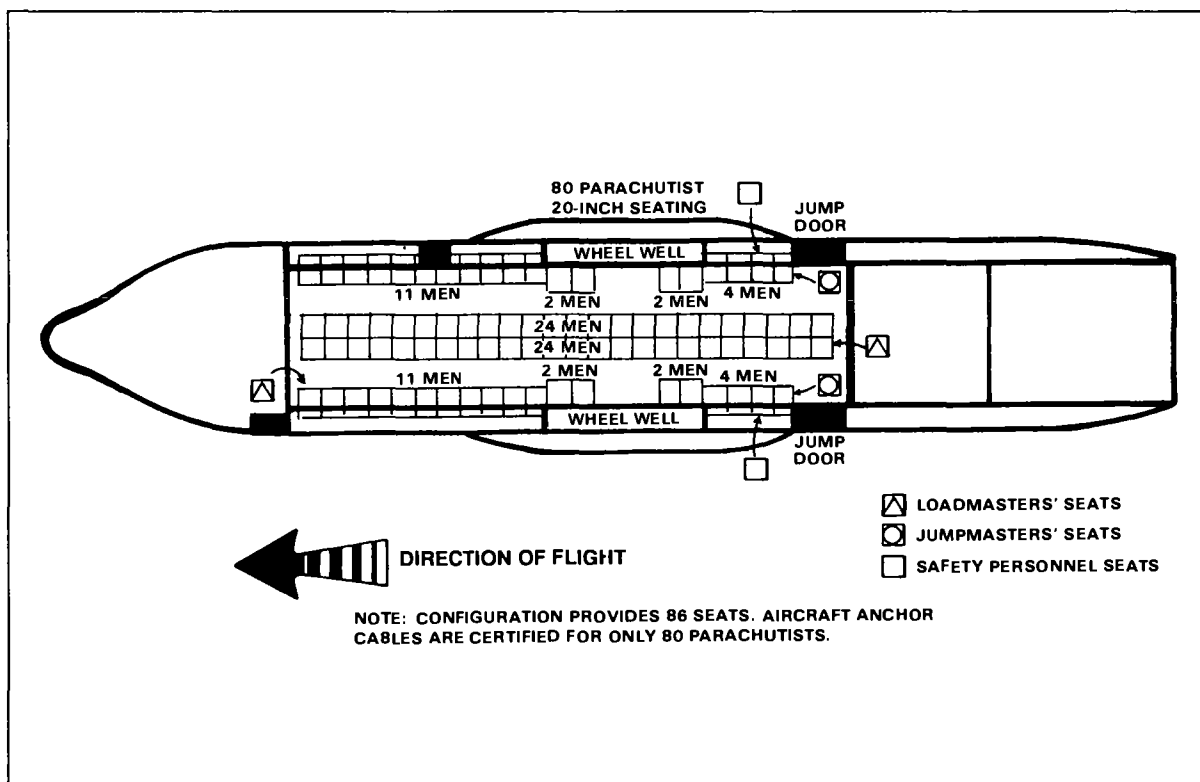

Figure 11-7. C-130 combat concentrated load.
b. **Loading Procedures and Seating Arrangement.** The aircraft is configured to provide 19 outboard seats and 21 inboard seats with seat belts installed on 20-inch centers (Figure 11-7).
(1) Parachutists are loaded through the aft end loading ramp